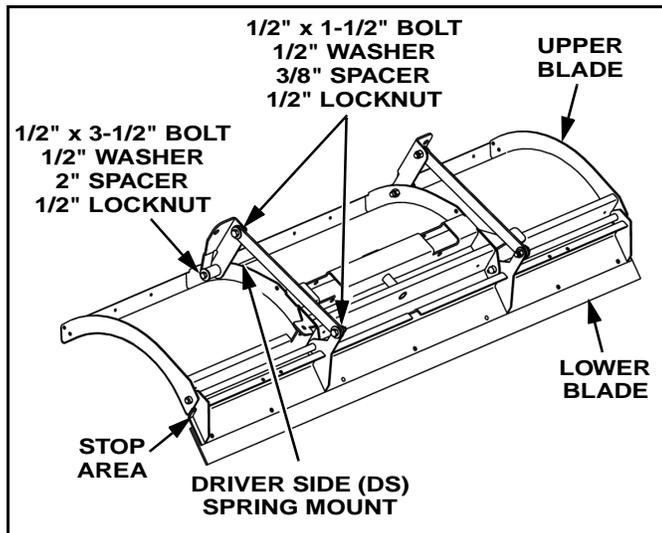

Figure 1-5
3. Place blocking under the upper blade so that the lower blade swings forward and the stop areas on the upper and lower blade touch. (See Figure 1-5)
4. Take out the Drivers Side Spring Mount. Place a 2\" spacer in the tube on the mount. (See Figure 1-5)
5. Bolt the Drivers Side Spring Mount to the Drivers Side inner rib on the upper blade using a 1/2\" hardened washer on the spacer side, 1/2\" x 3 1/2\" bolt, and 1/2\" lock nut. (See Figure 1-5)
6. Take a Spring Mount Plate and two 3/8\" spacers and bolt it to the Spring Mount and the tab on the lower blade. Use two 1/2\" hardened washers on the spacer side, two 1/2\" X 1 1/2\" bolts, and two 1/2\" lock nuts. (See Figure 1-5)